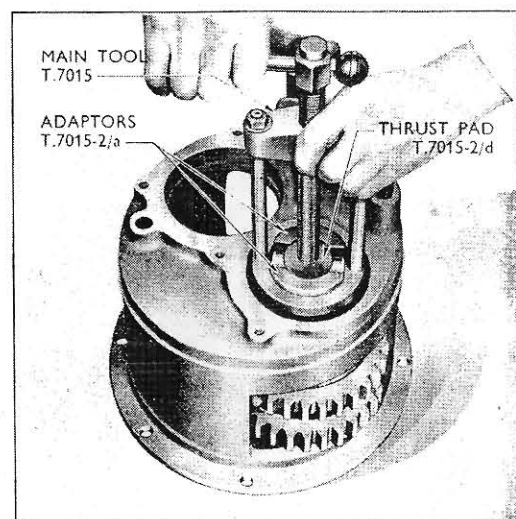

Fig. 15
15. Extract the locking wire, withdraw the four securing screws and remove the primary lower shaft end plate. Place the hollow tool T.7028 so that it rests firmly on a piece of wood, with the dog tooth end of the tool against the wood. Invert the housing and place it over the hollow tool with the primary lower shaft located inside the tool and the recessed rear face of the primary lower shaft sliding gear located against the tool upper face. Drive the shaft into the hollow tool. (See Fig. 15.) Remove the housing and extract the power take-off driving gear and lower shaft sliding gear through the cast hole.